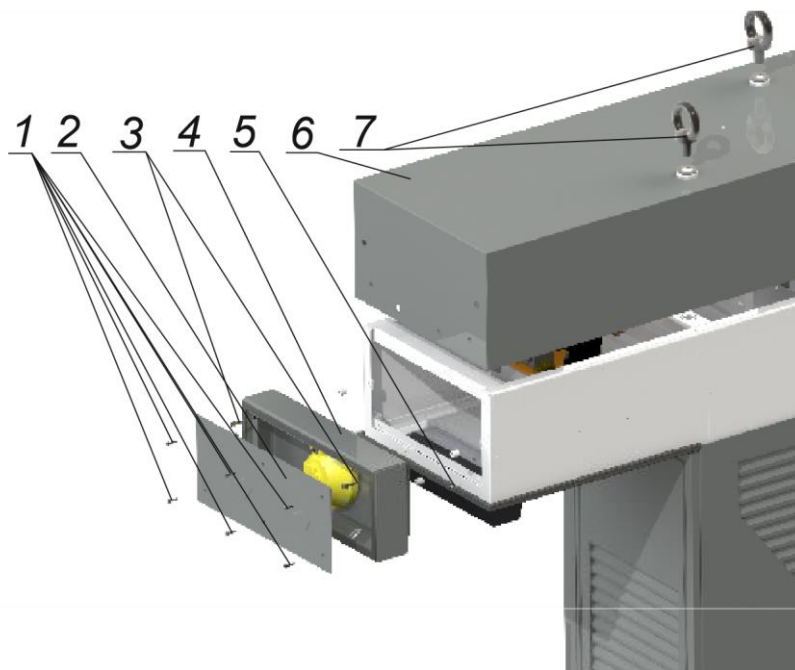

Figure 7.7. Location of the DC relay
1. Unscrew screws 1 (Fig. 7.7).
2. Remove cover 2 (Figure 7.7).
3. Unscrew screws 3 (Figure 7.7).
4. Remove the cable holder 4 (Figure 7.7).
5. Unscrew screws 5 (Figure 7.7).
6. Unscrew the eye with bolts 7 (Figure 7.7).
8. Remove cover 6 (Figure 7.7).